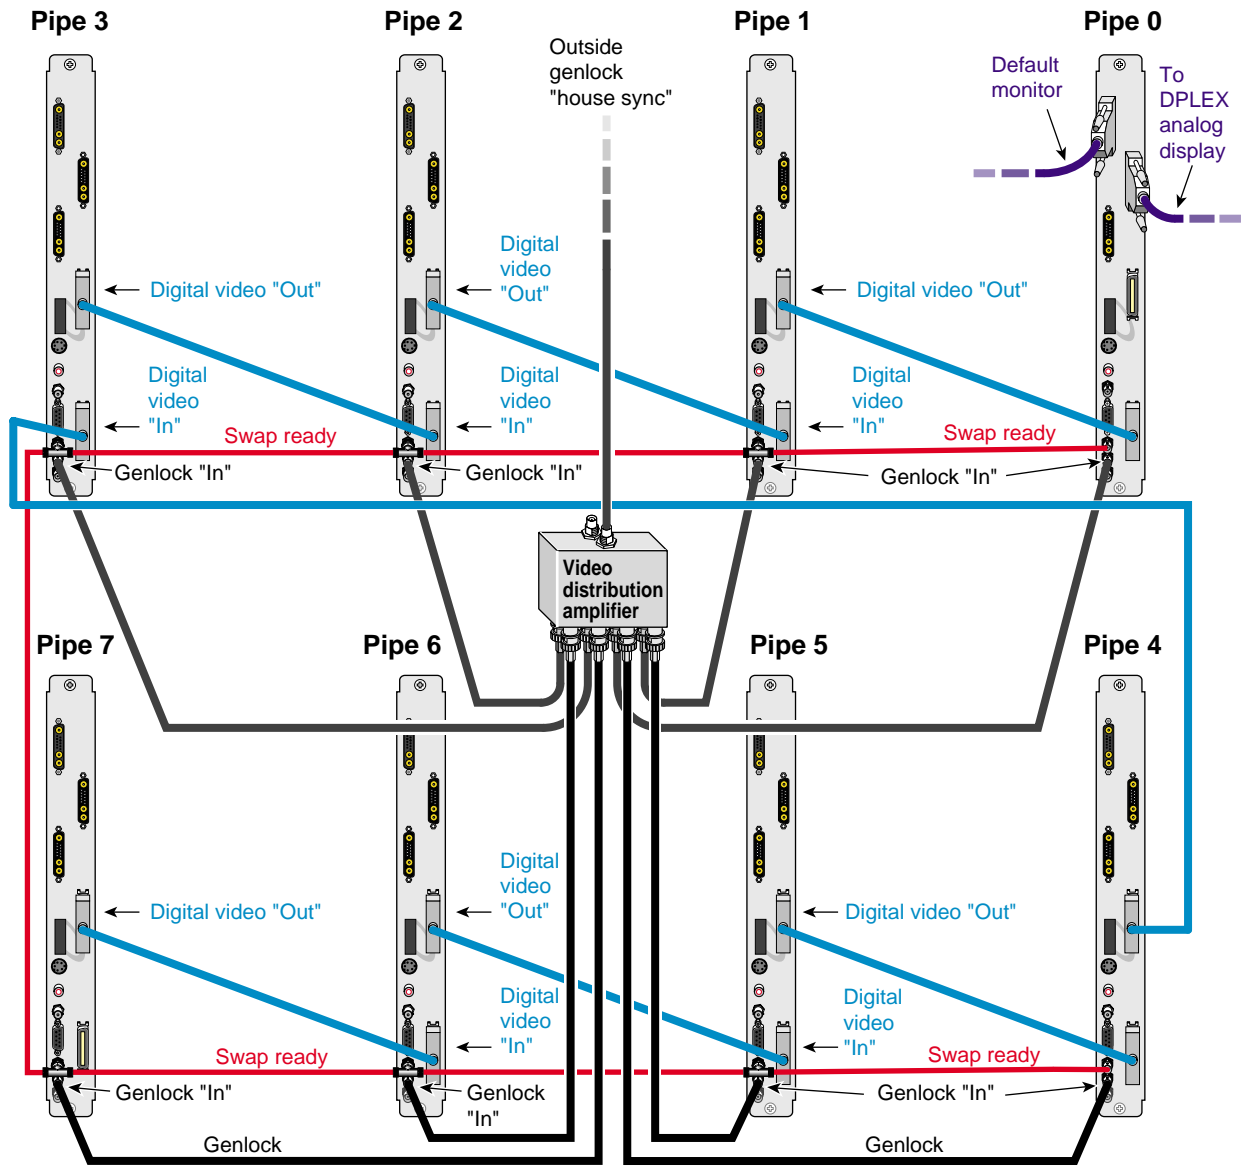

Figure 2-10 Eight-Pipe DPLEX Cabling
2. Connect the eight genlock cables from the video distribution amplifier to the genlock in connector on each DG5 DPLEX assembly (see Figure 2-10). The termination jumper must be set to terminate the genlock loop on the amplifier.
4. Connect swap ready cables to all the pipes using “T” connectors as applicable. No terminators are used with swap ready. See the example in Figure 2-10.